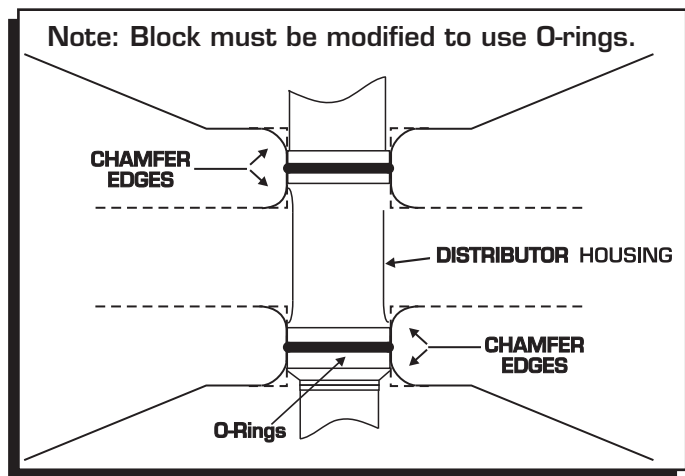

Figure 10 Modified Block for use with O-Rings.
7. Install the gasket and apply a liberal amount of the supplied lubricant to the distributor gear. (The supplied O-rings can **only** be used if the block has been modified as shown in Figure 10.)